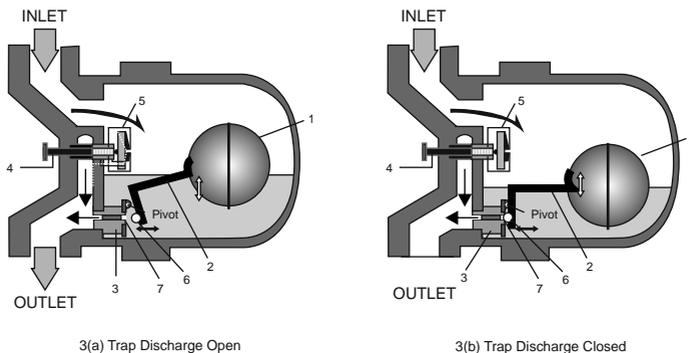

Figure3: Float trap working
4. Product Working Principle: (Refer to Figure 3)
Figure 3 shows a simple float trap operational representation. A float trap works on the Buoyancy Principle. Condensate enters the trap body and raises the float (1). The position of the float (1) depends upon the level/load of condensate (flowrate). The float trap continues to discharge condensate continuously and doesn't allow back up of condensate as long as the load is within the discharge capacity.
*The trap in the figure 3 shows a TV+SLR assembly. SOFT31-O comes with only SLR assembly.